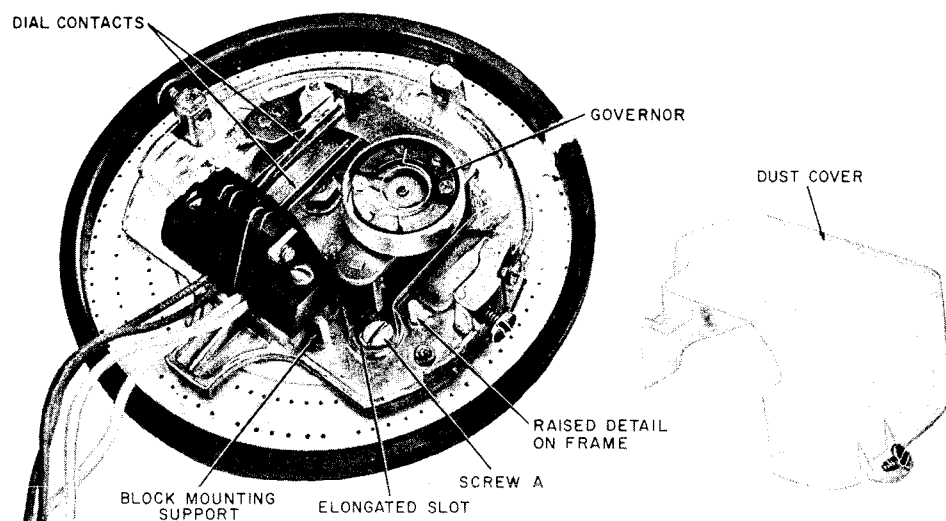

Fig. 26—7-Type Dial, Dust Cover Removed
(3) Remove the dust cover from dial (Fig. 26).